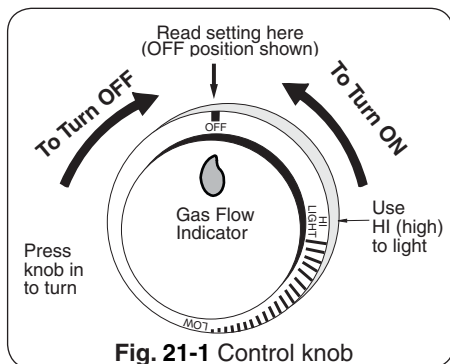

Fig. 21-1 Control knob
**For your convenience and safety; when the control knob is turned to the on position, the gas flow indicator will change from blue to red. (Red indicates gas flow.) See Fig. 21-1.**